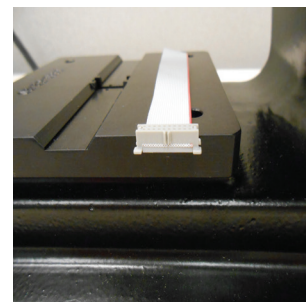

Figure 10
- Cover retaining devices on the body are flush with the cover end. (See Figure 10)